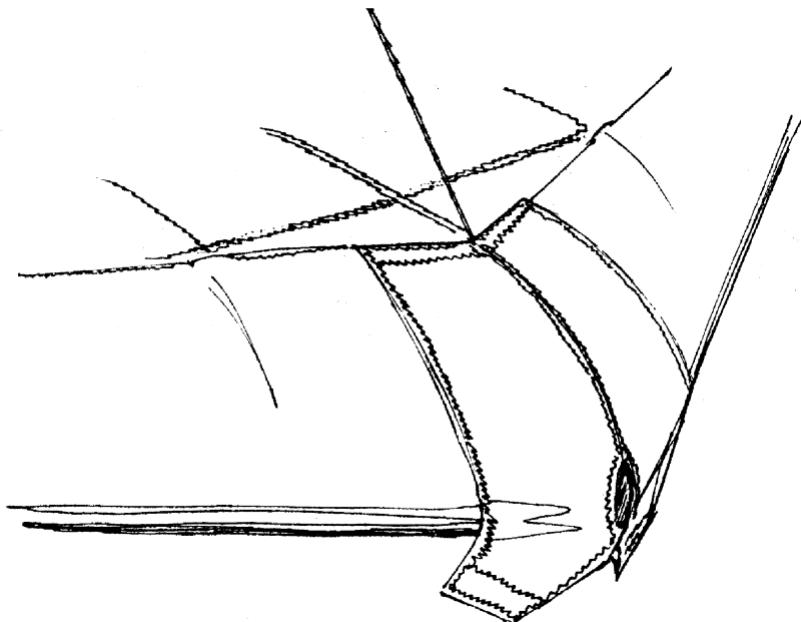

Fig. 29
2.2.11. Fit the nose cone over the front of the keel and attach the Velcro at the top rear end of the nose cone (Fig. 29).